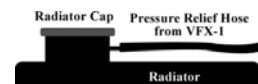

Figure 4
- 7) Remove cooling system overflow tube or hose from radiator neck or Remote Reservoir tank, (Fig 4). Securely connect rubber hose extension to overflow tube. Note: The rubber hose extension can be omitted and the cone opening can be placed directly on large overflow tubes.